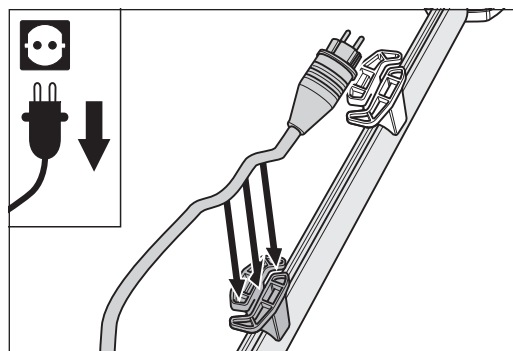

Fig. 2 Insert the motor cable in the lower cable holder on the guide tube.
- 3 Insert the motor cable in the lower cable holder on the guide tube (Fig. 2).